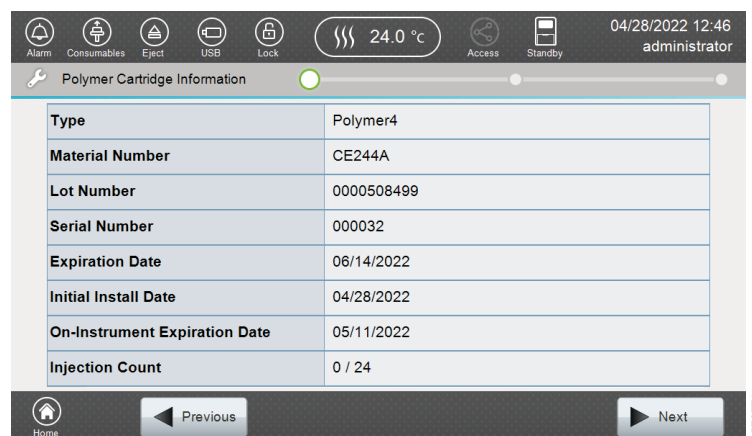

Figure 27. 'Polymer Cartridge Information' screen.
3. Using the Barcode Scanner, read the barcode label on the Spectrum Compact Polymer Cartridge. Information about the Spectrum Compact Polymer Cartridge being installed is displayed on the 'Polymer Cartridge Information' screen (Figure 27).